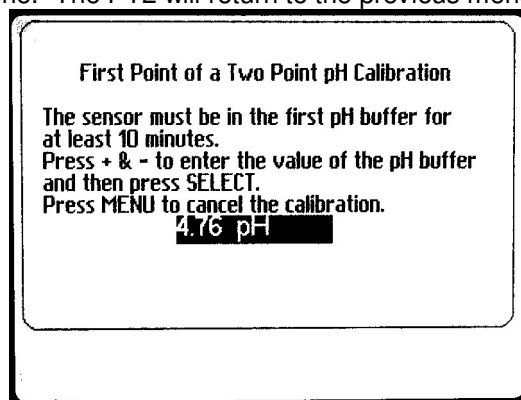

Figure 39 - First Point of a Two Point pH Calibration
4. From the FIRST POINT OF A TWO POINT pH CALIBRATION screen (Figure 39),